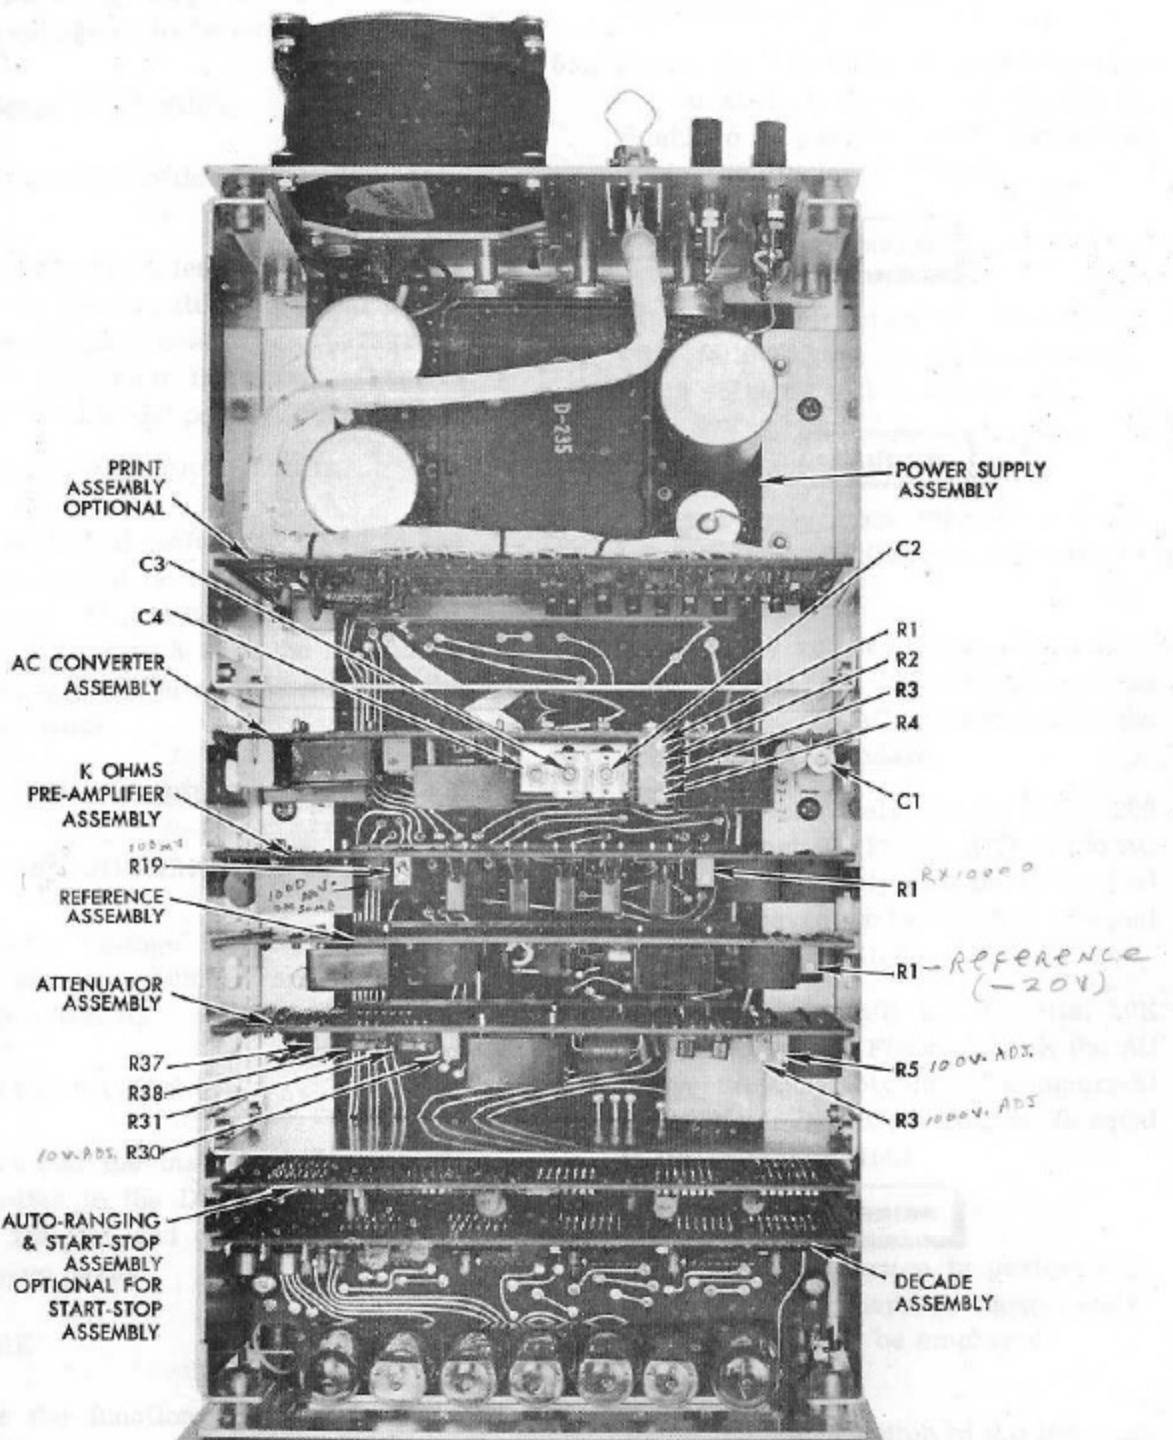

Figure 3-2. Location of Major Subassemblies and Adjustment Points
1. Remove the reference assembly, P/N 37-36, from instrument (Figure 3-2).
3. The numerical value displayed in the readout should be equal to the voltage of the voltage standard. If it is not, adjust potentiometer R30 (Figure 3-2) of the Attenuator Assembly, P/N37-39, until the readout displays the correct value. Note that input impedance of DVM is 10 Megohms.
Potentiometers R31 and R38 (Figure 3-2) have been adjusted and sealed at the factory and must not be adjusted in the field. They are temperature coefficient compensators for the \pm prime calibration.
4. The numerical value displayed in the readout should be equal to the voltage standard. If it is not, adjust potentiometer R3 (Figure 3-2) of the Attenuator Assembly until the readout displays the correct value.
7. Apply approximately 450.00 volts, 200 Hz and adjust R1 (Figure 3-2) of the AC Converter Assembly until the numerical value displayed in the readout is equal to the voltage applied.
8. Apply approximately 450.00 volts, 10K Hz and adjust C1 (Figure 3-2) of the AC Converter Assembly until the numerical value displayed in the readout is equal to the voltage applied.
9. Place the range switch in the 100 position. Apply approximately 90.00 volts, 200 Hz and adjust R2 (Figure 3-2) of the AC Converter Assembly until the
10. Apply approximately 90.00 volts 10 K Hz and adjust C2 (Figure 3-2) of the AC Converter Assembly until the numerical value displayed in the readout is equal to the voltage applied.
11. Place the range switch in the 10 position. Apply approximately 9.000 volts, 200 Hz and adjust R3 (Figure 3-2) of the AC Converter Assembly until the numerical value displayed in the readout is equal to the voltage applied.
13. Apply approximately 0.9000 volts, 200 Hz and adjust R4 (Figure 3-2) of the AC Converter Assembly until the numerical value displayed in the readout is equal to the voltage applied.
14. Apply approximately 0.9000 volts, 10K Hz and adjust C4 (Figure 3-2) of the AC Converter Assembly until the numerical value displayed in the readout is equal to the voltage applied.
7. Apply approximately 9000 $K\Omega$ and adjust R1 (Figure 3-2) of the Ohms Converter and Pre-amplifier Assembly until the numerical value displayed in the readout is equal to the ohmic value applied.
Pre-amplifier Assembly (Figure 3-2) until the numerical value displayed in the readout is equal to the voltage of the voltage standard.